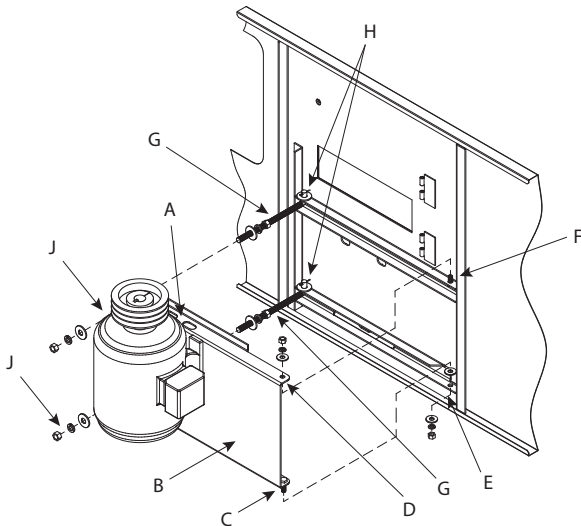

Figure 17a - External Motor Installation
All units narrower than 10' (3m) wide have their motors installed outside the unit in a shaft up configuration as shown in figures 17a and 17b below. Due to shipping width restrictions, these motors cannot ship mounted on the units since they would extend past the width of the truck. For this reason, the motor(s), motor base(s), motor guard(s), "J" bolts, pivot pins and belt(s) are shipped in the cold-water basin of the cooling tower. Please follow the step-by-step instructions below to properly install these components.
1. Study Figure 17a above before installing the motor base on the unit.